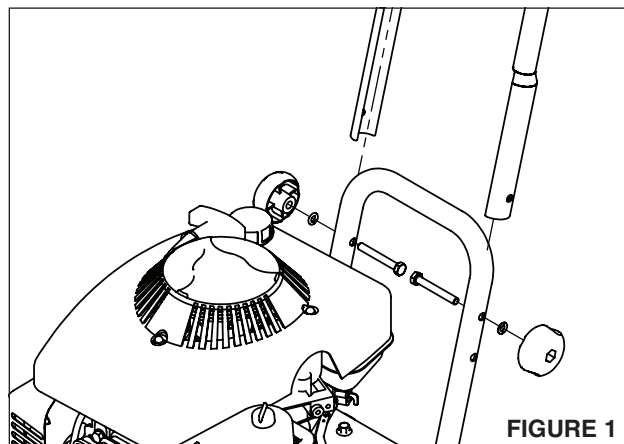

FIGURE 1
- a. Assemble top handlebar over lower loop. Put M8 x 55 screws through both holes from inside out. Put on flat washers 8 and tighten with hand knobs. **SEE FIGURE 1.**